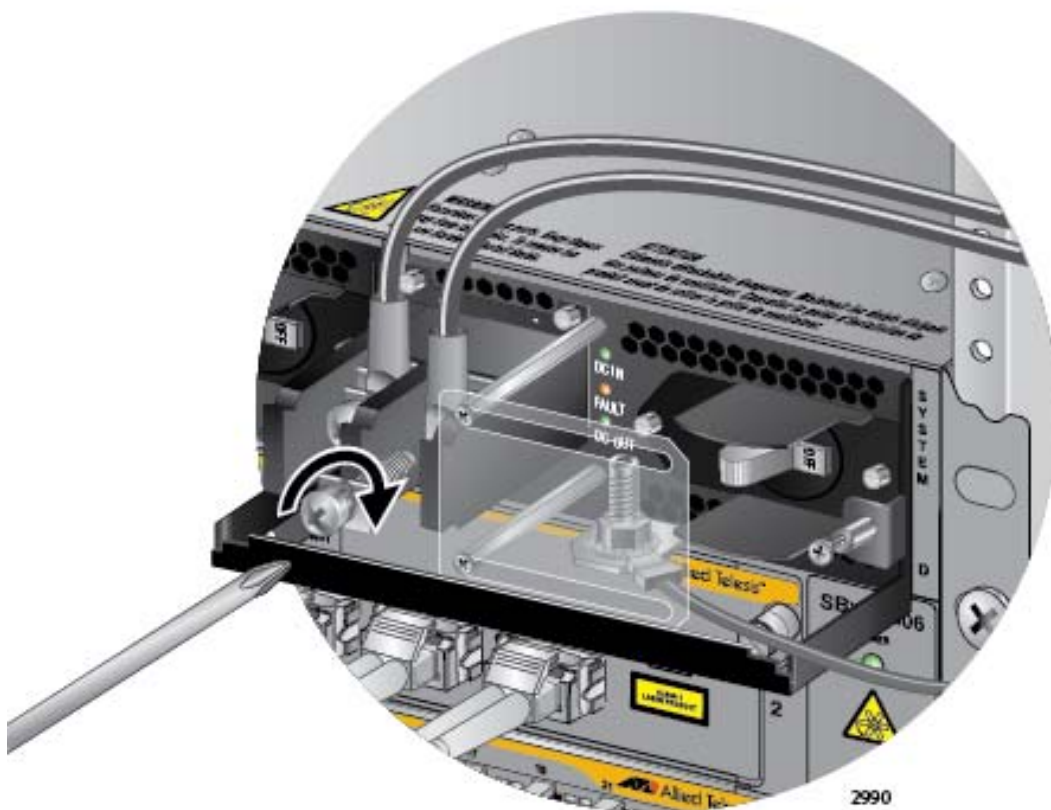

Figure 138. Connecting the Negative (-) Power Wire with a Straight Terminal
7. With a #3 Phillips-head screwdriver, connect the negative (-) power lead wire to the negative terminal on the power supply, with the remaining terminal screw removed in step 5. The negative terminal is on the right. You may attach the terminals with the wires either above or below the terminal block. Figure 138 on page 214 shows the wires above the terminal block.